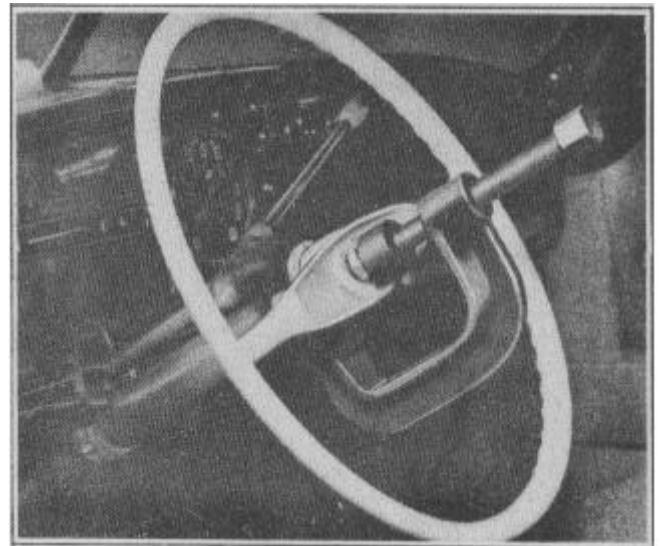

FIGURE 3
4. Place the adapter (split ring .1-739 -10) around the jacket tube and enter the small diameter of the adapter under the steering wheel hub and position the puller foot of puller J73B around the outside (large) diameter of adapter, Figure 3, with the steering wheel nut partially
9. Use steering wheel puller .1-739-B and pull steering wheel, Figure 3.